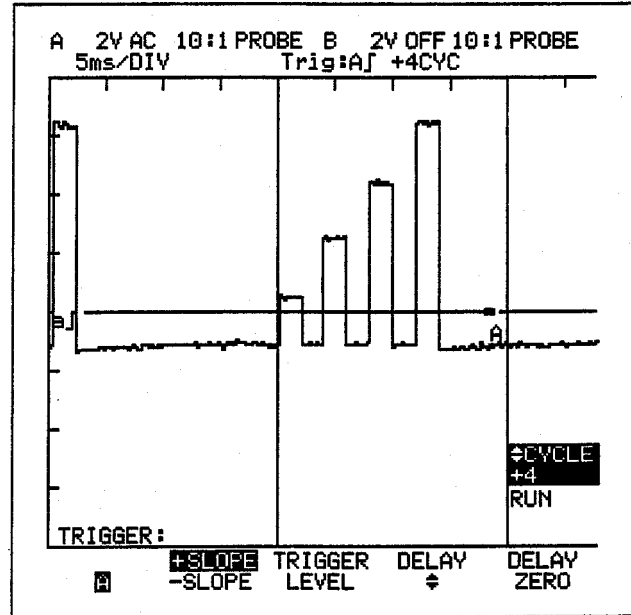

Figure 6.12
- Use **▽** to adjust the trigger LEVEL just above the base level, which gives a very unstable picture (see Figure 6-12).